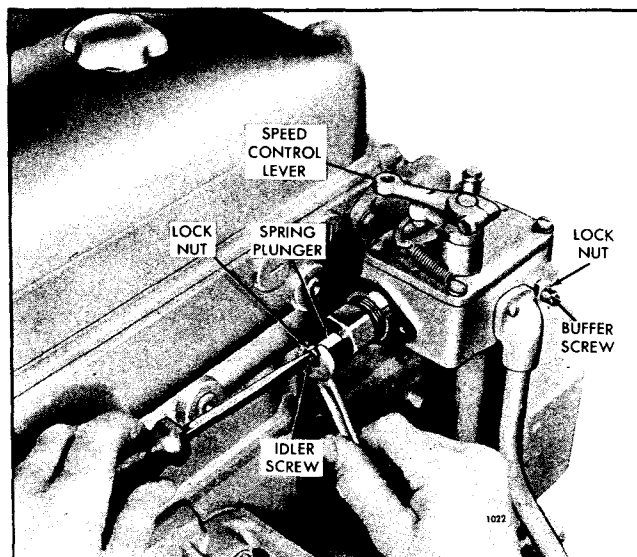

Fig. 8 - Adjusting Engine Idle Speed
2. Back out the buffer screw until it extends approximately 5/8" from the lock nut (Fig. 8).
2. With the engine at normal operating temperature and with the buffer screw (Fig. 8) backed out to avoid contact with the differential lever, turn the idle speed adjusting screw until the engine is operating at approximately 15 rpm below the recommended idle speed.
1. With the engine running at normal operating temperature, turn the buffer screw (Fig. 8) in so it contacts the differential lever as lightly as possible and still eliminates engine roll.